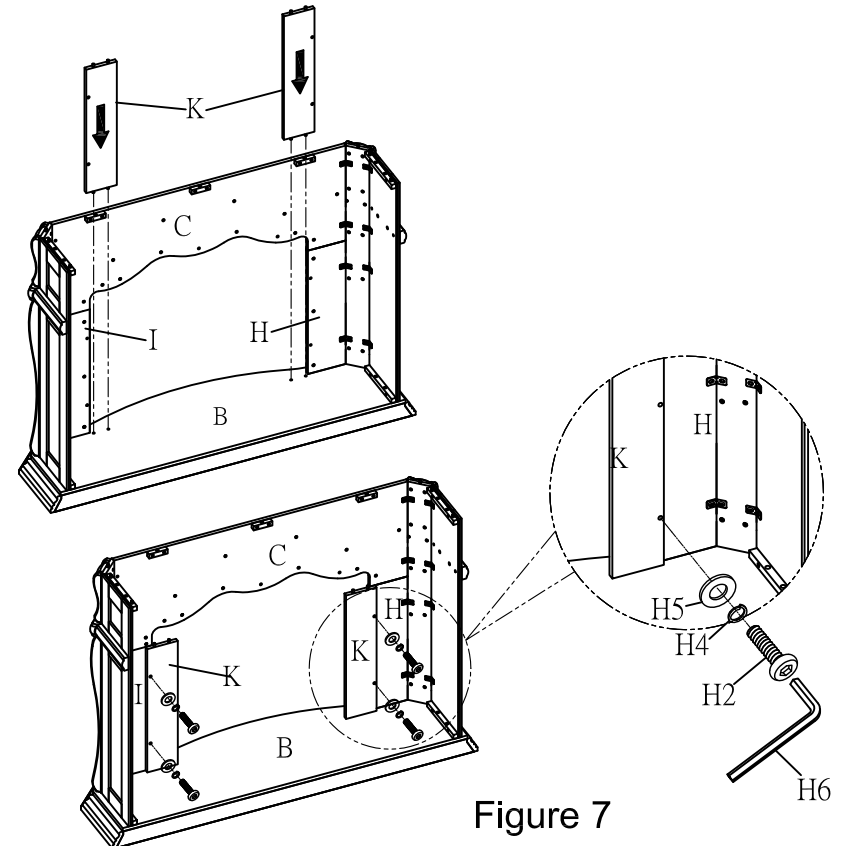

Figure 7
With assistance from other adults, insert the tenons of Side Rail (K) into the corresponding holes of Base (B). The Holes of Side Rail (K) should align with the holes in Left Support (H) and the glossy side should face front. Attach Side Rail (K) to Left Support (H) using Middle Bolt (H2), Spring Washer (H4), Flat Washer (H5) and Allen Wrench (H6) as shown in Figure 7. DO NOT fully tighten bolts at this time. Attach remaining Side Rail (K) to Right Support (I) using the same process.